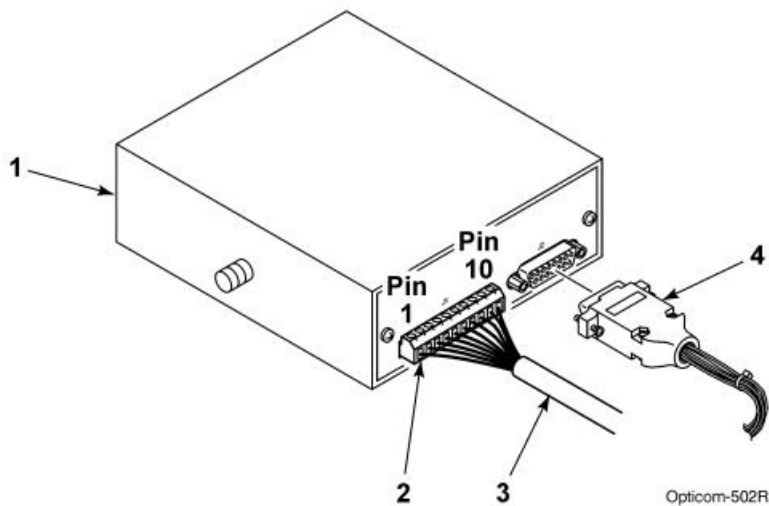

Figure 5-5. Vehicle Control Unit Wiring
7. Place each wire into the appropriate terminal in the 10-pin terminal block located on the back of the control unit and tighten the screw to secure the wire. The label on the terminal block shows the color for each wire. Table 5-2 also shows the terminal block pin number, wire color, and function for each wire. See Figure 5-5.
9. Plug the vehicle interface harness into the 15-pin connector on the back of the control unit and tighten the screws. See Figure 5-5.